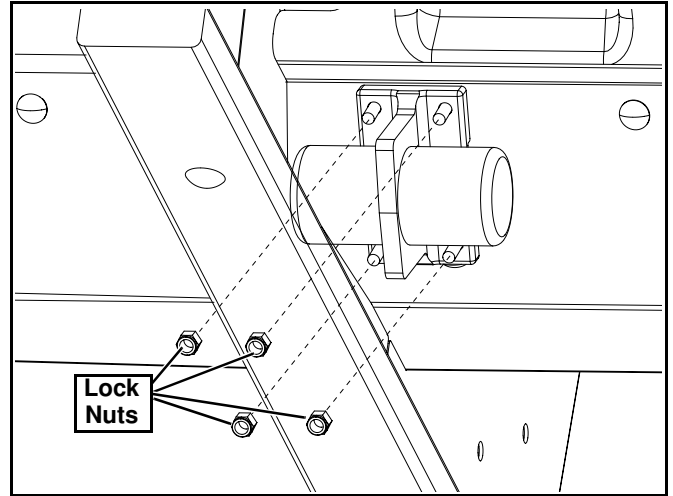

Figure 5
6. Install the vibrator onto the bolt plates, and install the nylon lock nuts onto the protruding threads of the retention brackets. (See Figure 5)